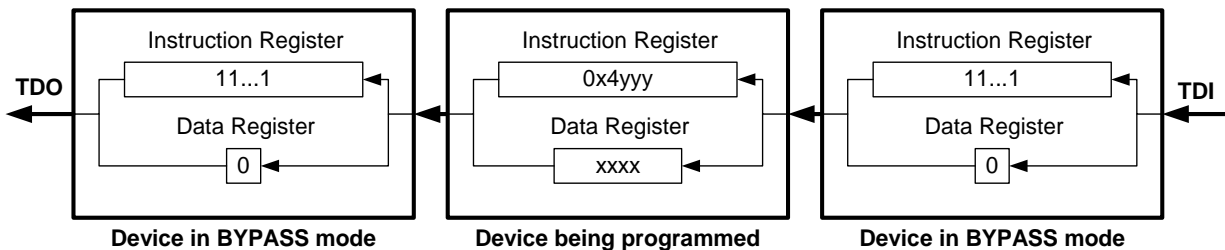

Figure 22. Isolating a C8051 Device to be Programmed
Each Instruction Register scan operation is configured to place all devices other than the device to be programmed in BYPASS mode. This is accomplished by shifting '1's into the Instruction Registers of all devices before and after the isolated device, as shown in Figure 22.
1. IR Scan operations are prefixed with m '1's and post-fixed with n '1's, where m is the number of instruction register bits before the device to be programmed and n is the number of instruction register bits after the device to be programmed, as shown in Figure 22.